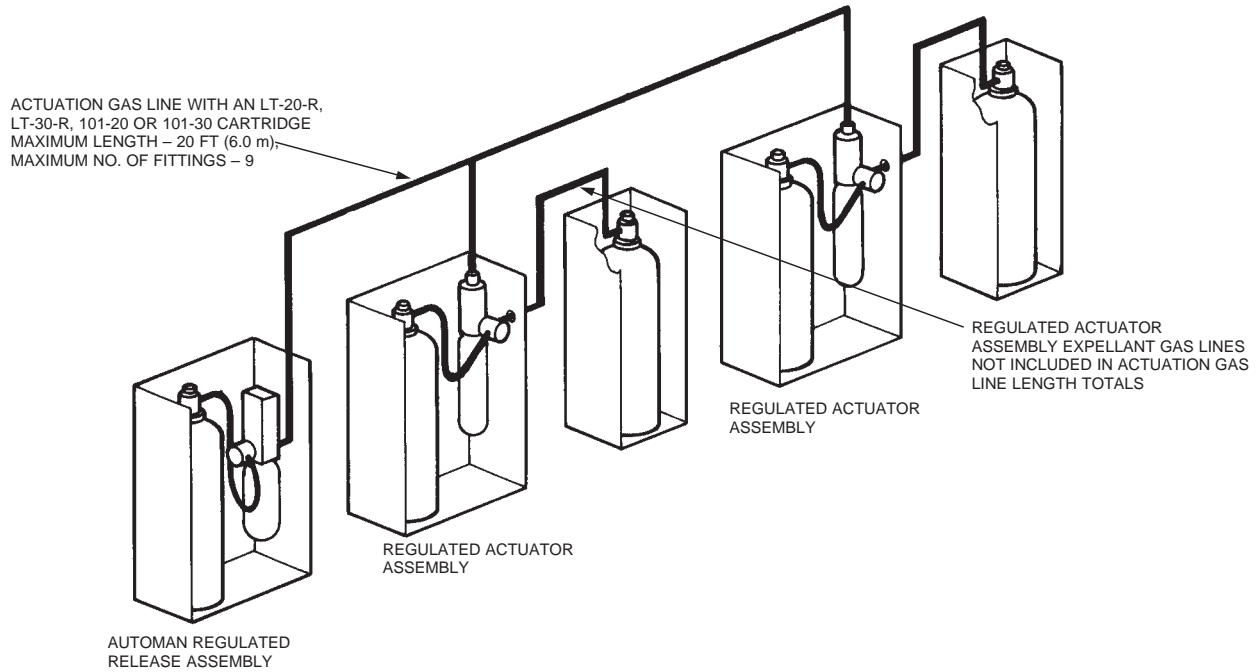

FIGURE 5-16
- The total combined length of the actuation gas line from the regulated release assembly to all regulated actuator assemblies must not exceed 20 ft (6 m) when using an LT-20-R nitrogen cartridge, an LT-30-R nitrogen cartridge, a 101-10 CO₂ cartridge, or a 101-20 CO₂ cartridge. See Figure 5-16.